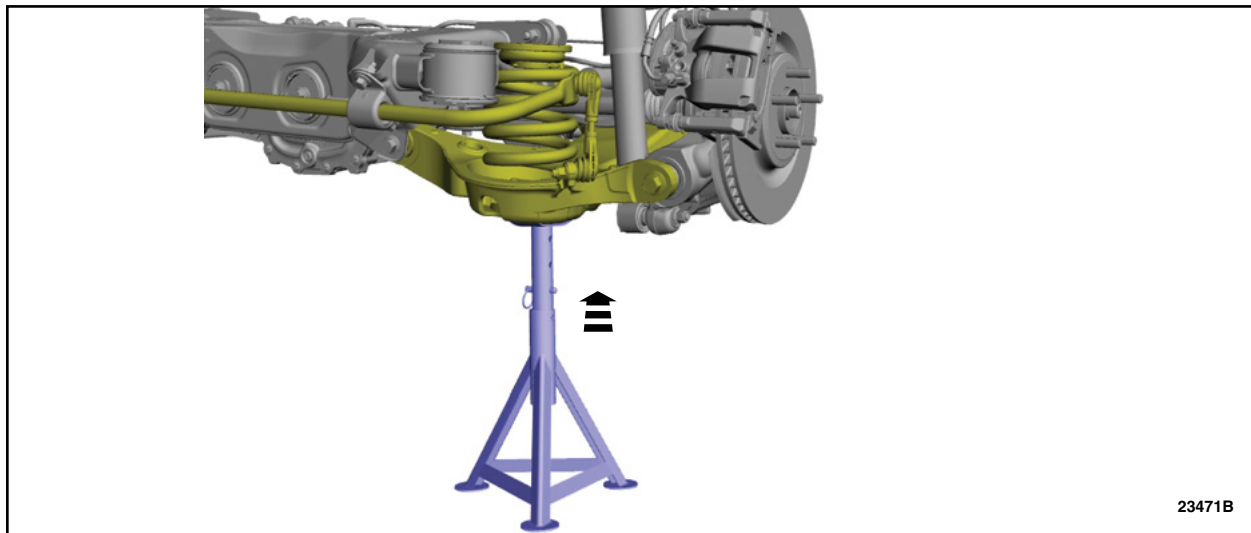

FIGURE 2
6. On the rear LH side of the vehicle, use a suitable jack to raise the suspension until the distance between the center of the hub and the lip of the fender is equal to the measurement taken in Step 3, (curb height). See Figure 2.